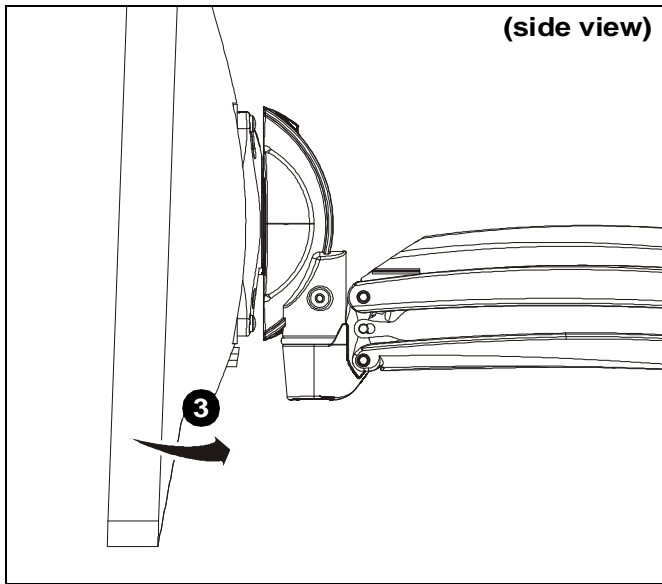

Figure 3
- Slide base of monitor towards mount until lower tabs secure display to mount. An audible “click” should be heard. (See Figure 3)